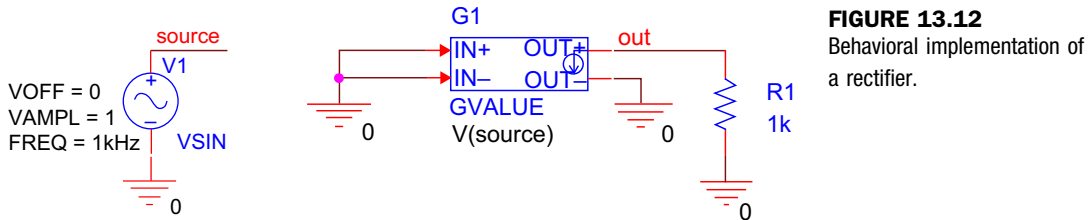

FIGURE 13.12
1. Draw the ABM rectifier as shown in Figure 13.12. The net name `in` is referenced inside the ABM expression brackets.